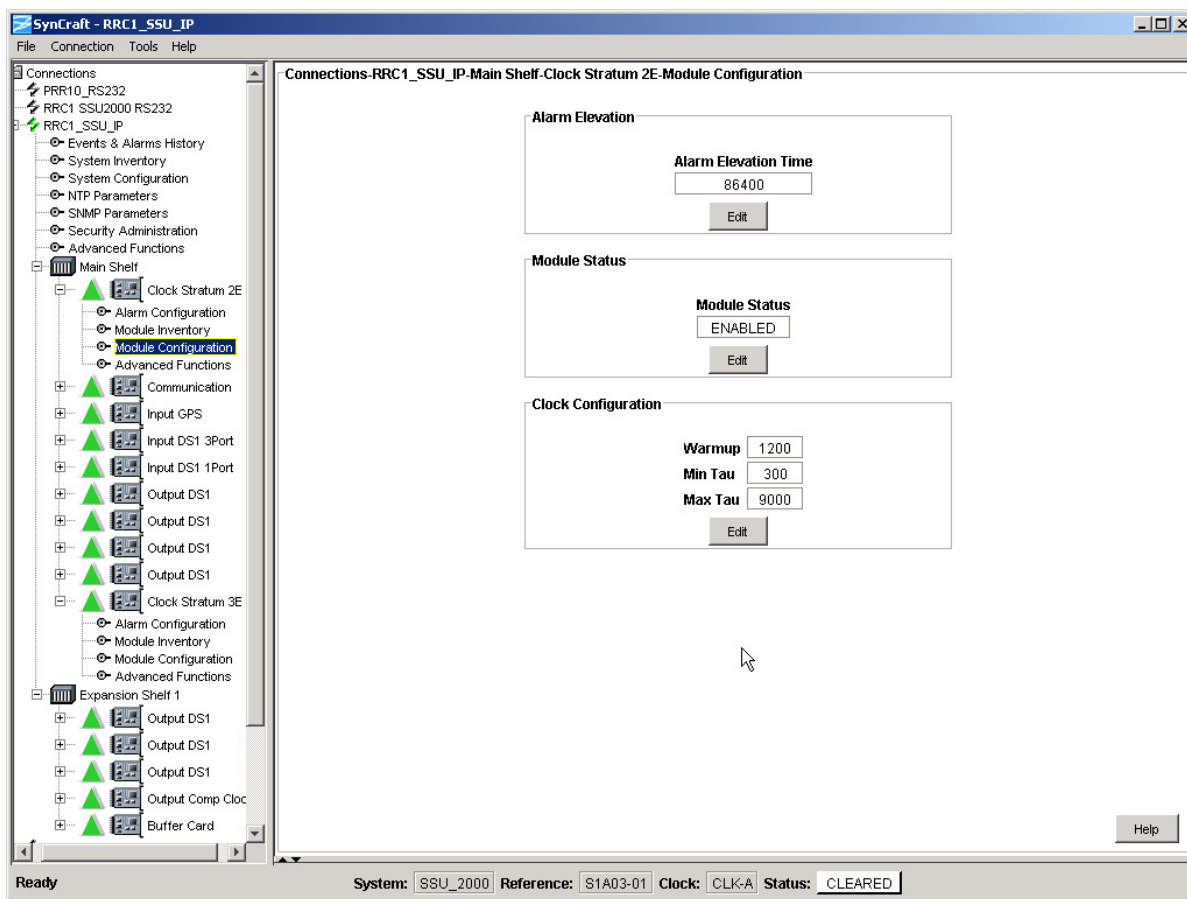

Figure H-11. Primary Clock Module Configuration Screen
9. Select the Main Shelf and then select the first Clock module in the menu. Expand the Clock module and select Module Configuration. A display similar to that in Figure H-11 appears.